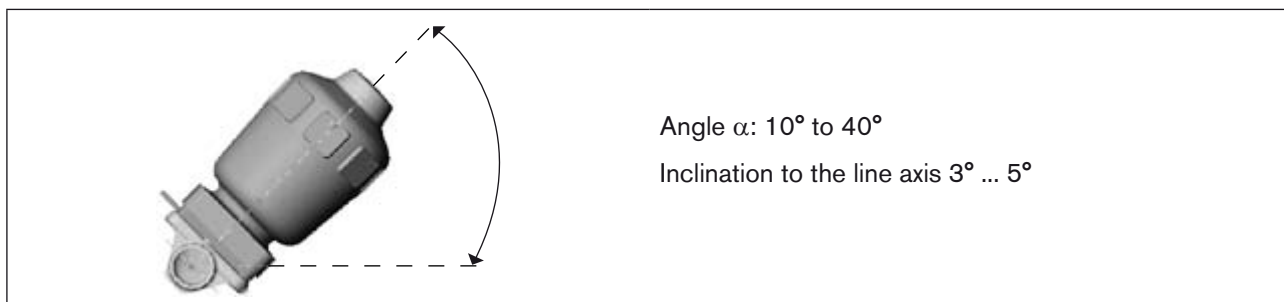

Figure 11: Installation position for self-drainage of the housing
- Install housing inclined by angle  $\alpha = 10^\circ$  bis  $40^\circ$  to the horizontal (see *Figure 11: Installation position for self-drainage of the housing*).